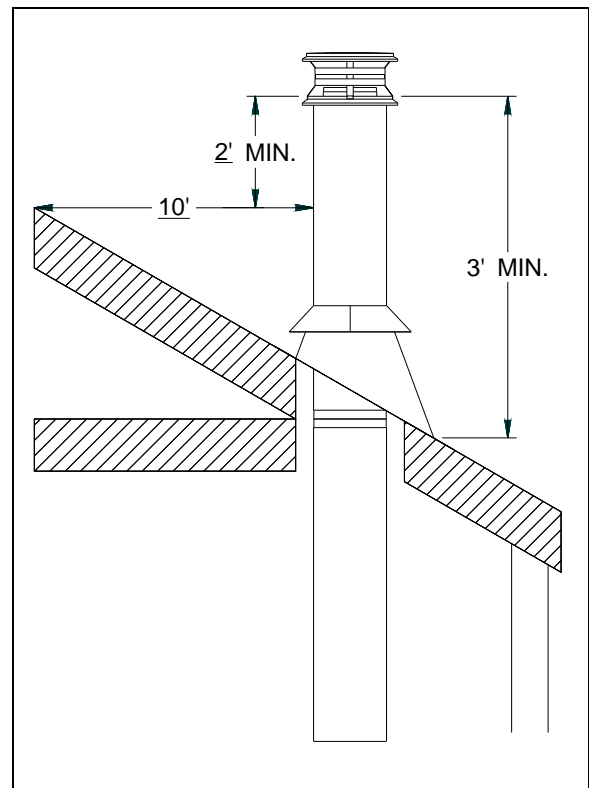

Figure 36
6. The chimney must extend at least 3 ft. (1 m) above its point of contact with the roof and at least 2 ft. (0.6 m) higher than any wall, roof or building within 10 ft. (3 m) of it (Figure 36).